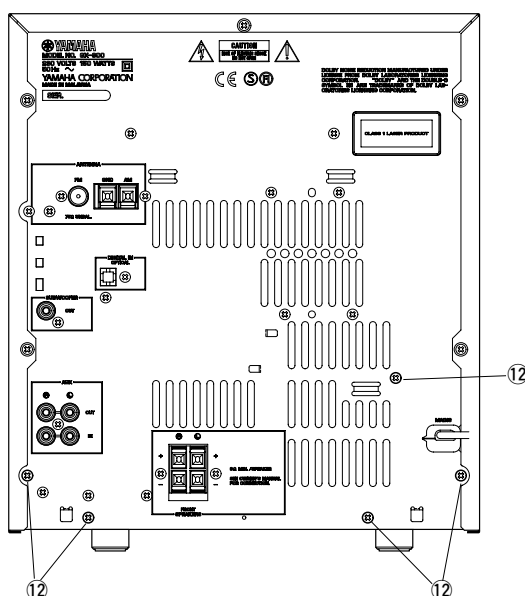

Fig. 7
8. Operation Check of P.C.B. Main (1)
- e. Remove 5 screws (12) in Fig. 7.